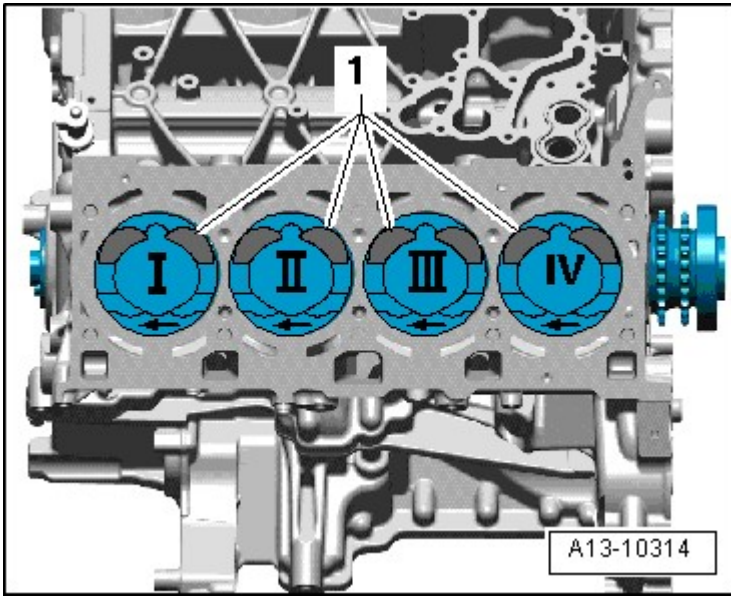

Fig. 12: Piston Installation Position
- Installed position, refer to **Fig. 12**